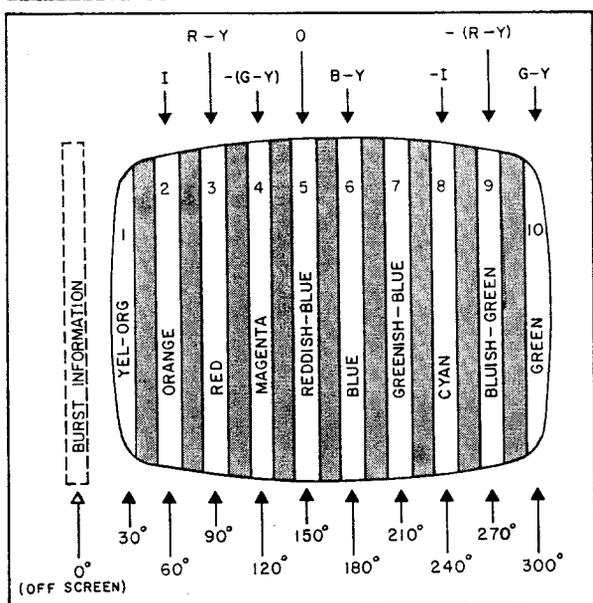
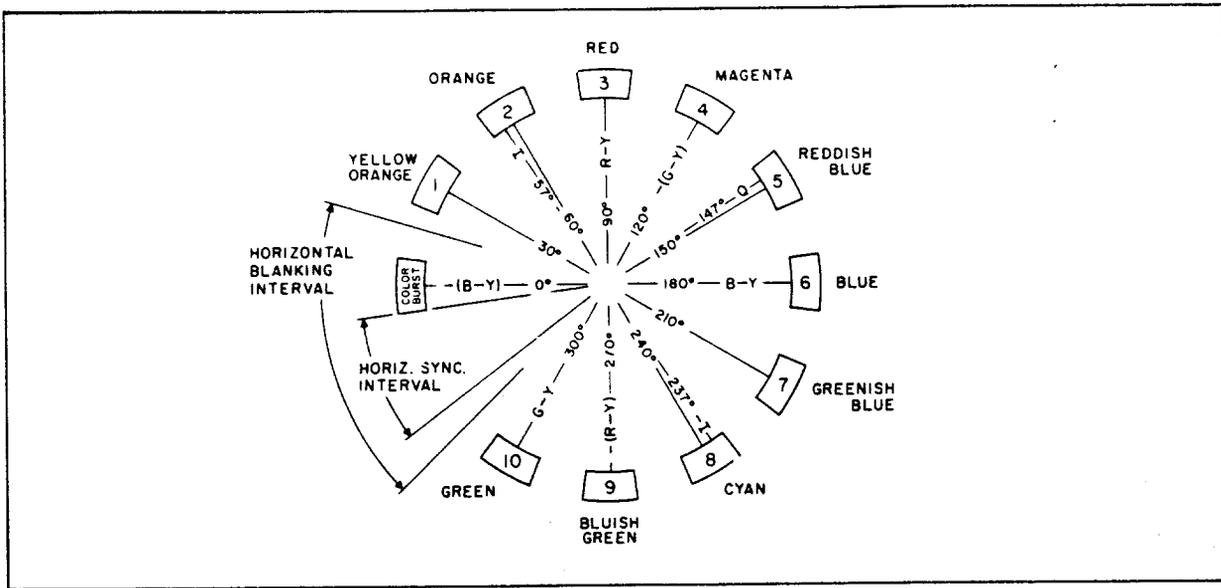

Fig. 2. 10-Bar Gated Rainbow Pattern.
Fig. 4. Gated Rainbow Phase Relationship.
The 10 color bars are raised on a luminance pedestal and gated at 30° intervals from burst. The resulting pattern is shown in Fig. 2, and a vector diagram representation of the signal is shown in Fig. 4. The pattern is primarily used for testing and aligning color circuitry. The reference black background gives sharp edge definition and aids in recognizing color spill.
2. Adjust the receiver's saturation, brightness, and contrast controls to produce a pleasing color pattern. Ten individual color bars should be visible on the face of the screen (see Fig. 2 and 4). Some receivers may only display eight or nine bars due to excessive overscan or blanking.